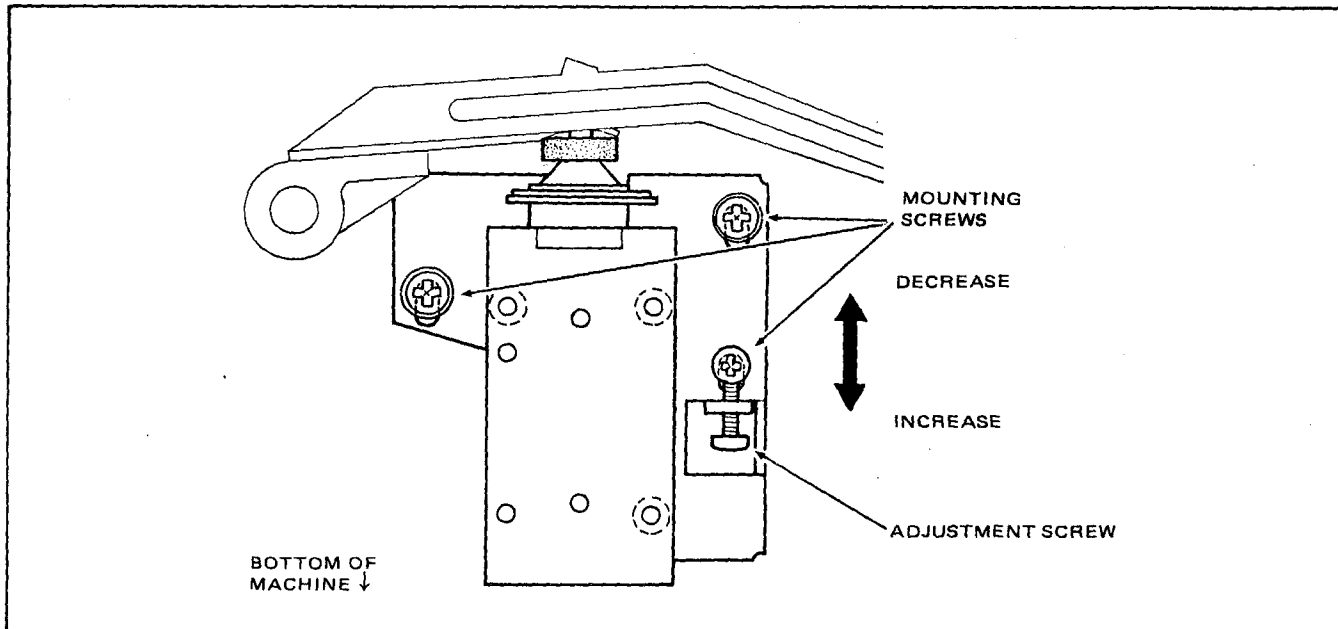

Figure 5-11. Pinch Roller Pressure Adjustment
- c. Move the solenoid up (screw in) to decrease the pressure, or down (screw out) to increase the pressure. Adjust this screw until it contacts the solenoid mounting screw as shown in Figure 5-11.